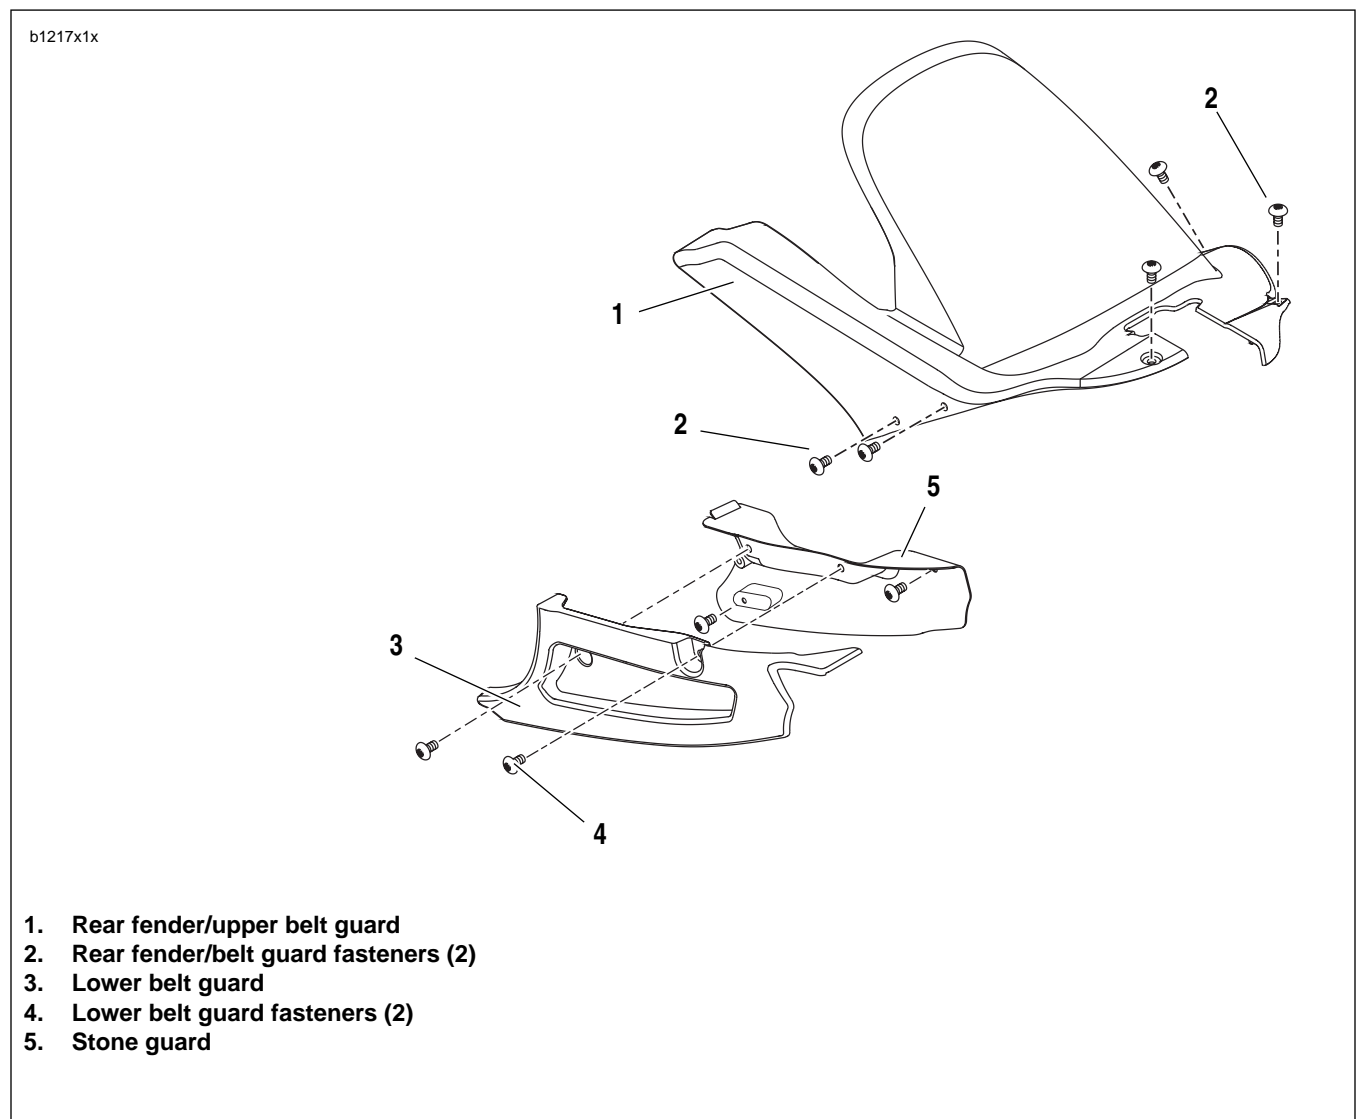

Figure 2-124. Belt Guard Assembly
4. See Figure 2-124. Remove rear fender/upper belt guard (1) by removing fasteners from swingarm.
5. Remove lower belt guard (3) by removing the two fasteners (4) located on the outside of the lower belt guard.
6. Once the lower belt guard has been removed, remove the metal stone guard (5).
1. See Figure 2-124. Apply LOCTITE 272 (red) and install rear fender/belt guard (1) to swingarm. Tighten fasteners to 12-36 **in-lbs** (1-4 Nm).
3. Install lower belt guard (3) and tighten fasteners (4) to 12-36 **in-lbs** (1-4 Nm).